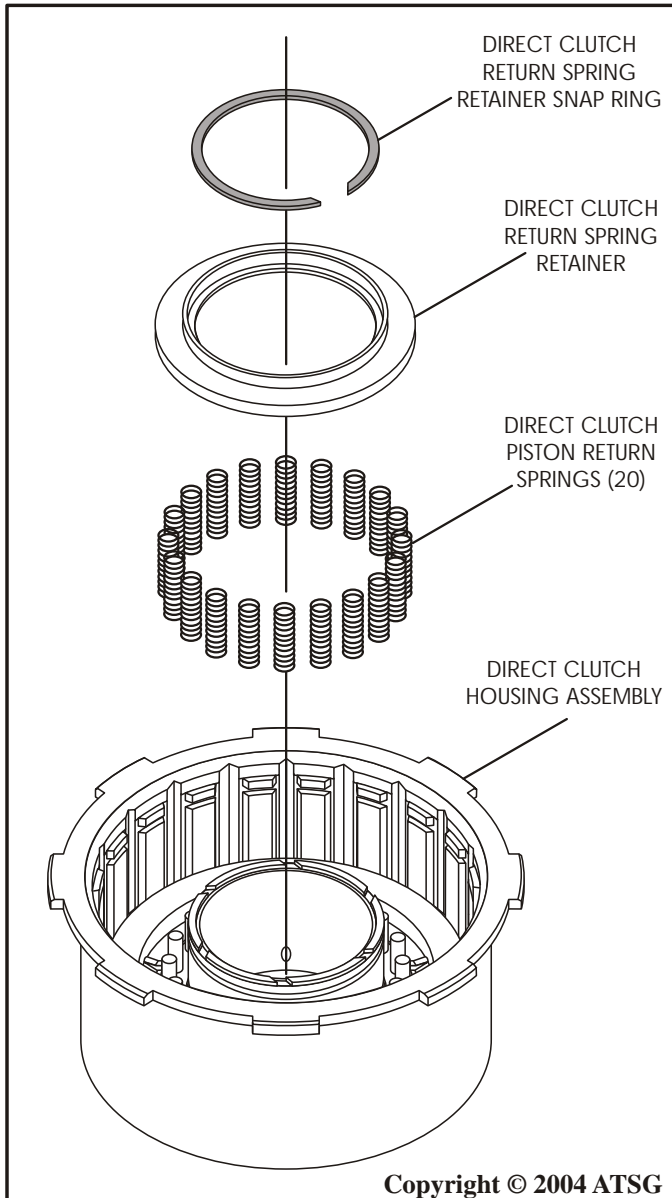

Figure 81
10. Install the direct clutch piston return springs on the direct clutch piston, as shown in Figure 81.
11. Install the direct clutch return spring retainer on top of return springs, as shown in Figure 81.
12. Carefully compress the retainer and the return springs and install the retaining snap ring, as shown in Figure 81.